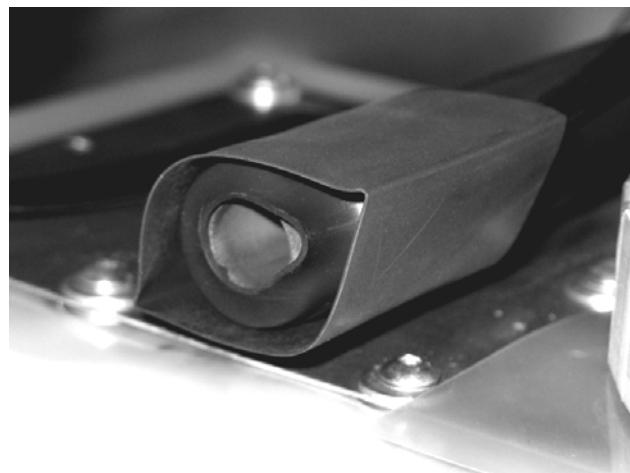

Figure 68: Fitting the 5 cm heat shrink tube
17. Slide the 5 cm heat shrink tube over the freshly insulated connection (see Figure 68).